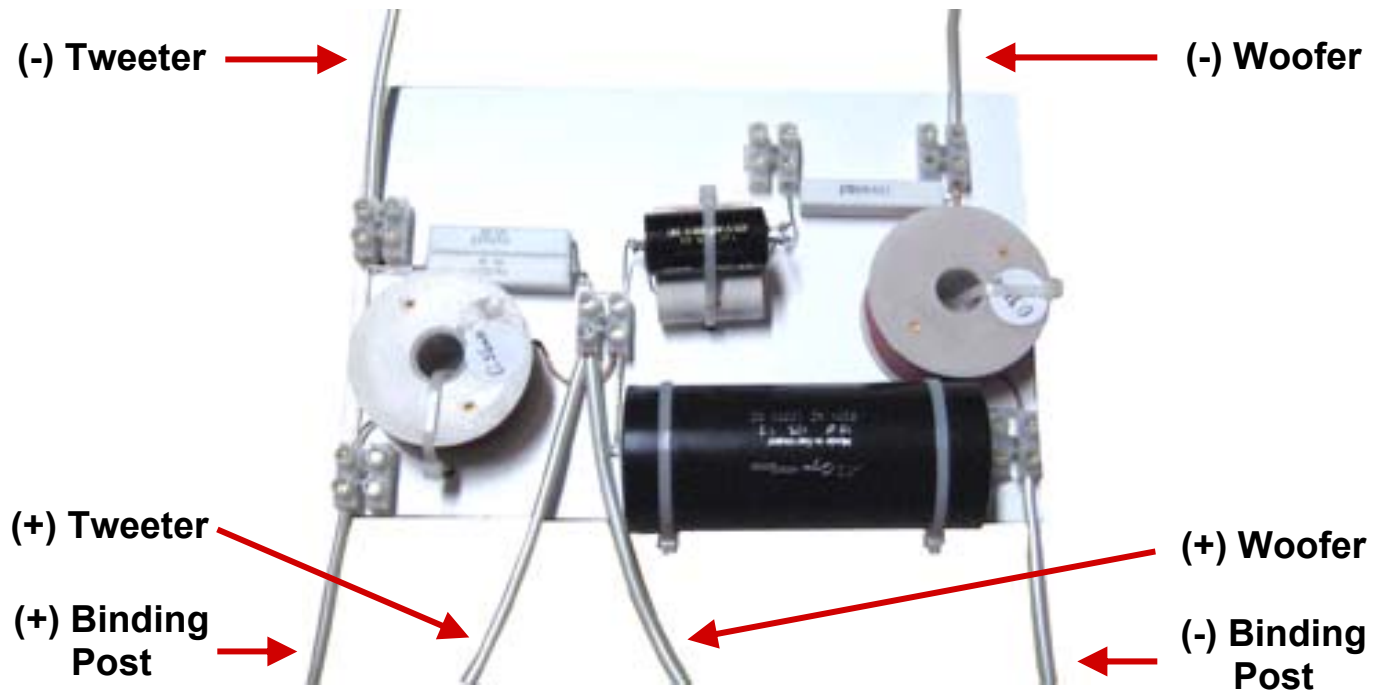

Fig. 15: Insert the 2ft speaker wires as shown and then tighten screw at **T1S2**, **T2S3**, **T3S4**, **T4S3**, **T6S1**
20. Insert cables into the following locations, **T1S2 (-)Binding Post**, **T2S3 (+)Binding Post**, **T3S4 (+)Woofer**, **T4S3 (-)Woofer/Tweeter**, and **T6S1 (+)Tweeter** (Fig. 15)